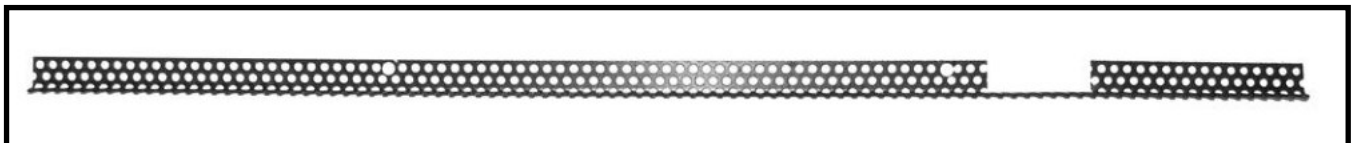
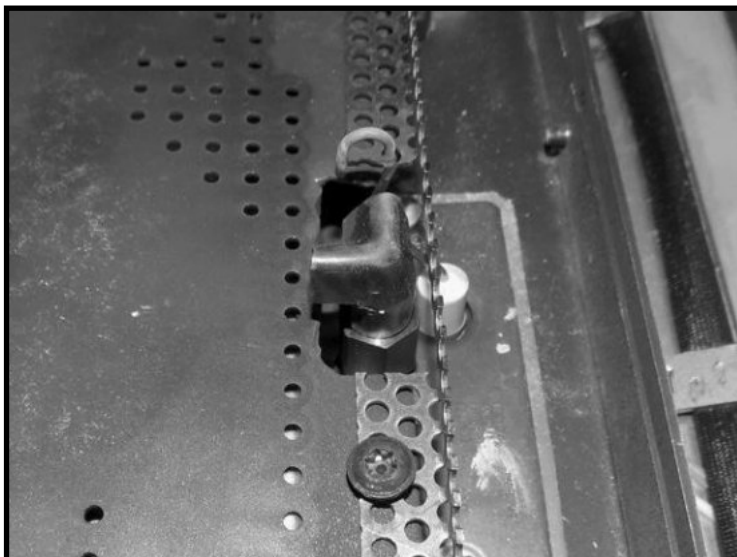

Figure 67: Front retainer.
Figure 68: Front retainer in place.
4. Place the front vermiculite retainer (Figure 67) along the front edge of the front burner. Secure with supplied screws. Fit the retainers gap around the pilot assembly (Figure 68).